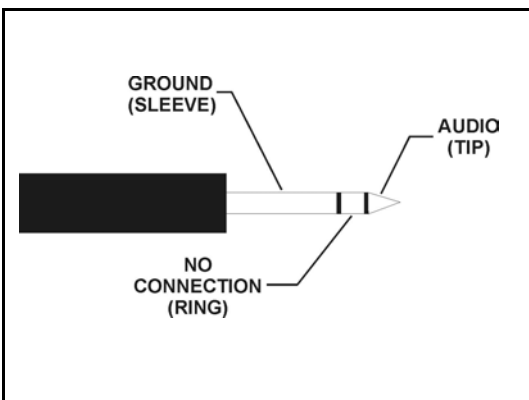

Figure 2-5 Wiring Mono Headphones
Mono headphones can be used with ORION II, provided they are wired correctly with a stereo plug and the headphone audio settings in the AUDIO menu are set to the appropriate values. You can use left side audio output to mono headphones by wiring the headphones as shown in Figure 2-5. See **(36) AUDIO** later in the manual for adjusting the headphone output for mono headphones as wired below.